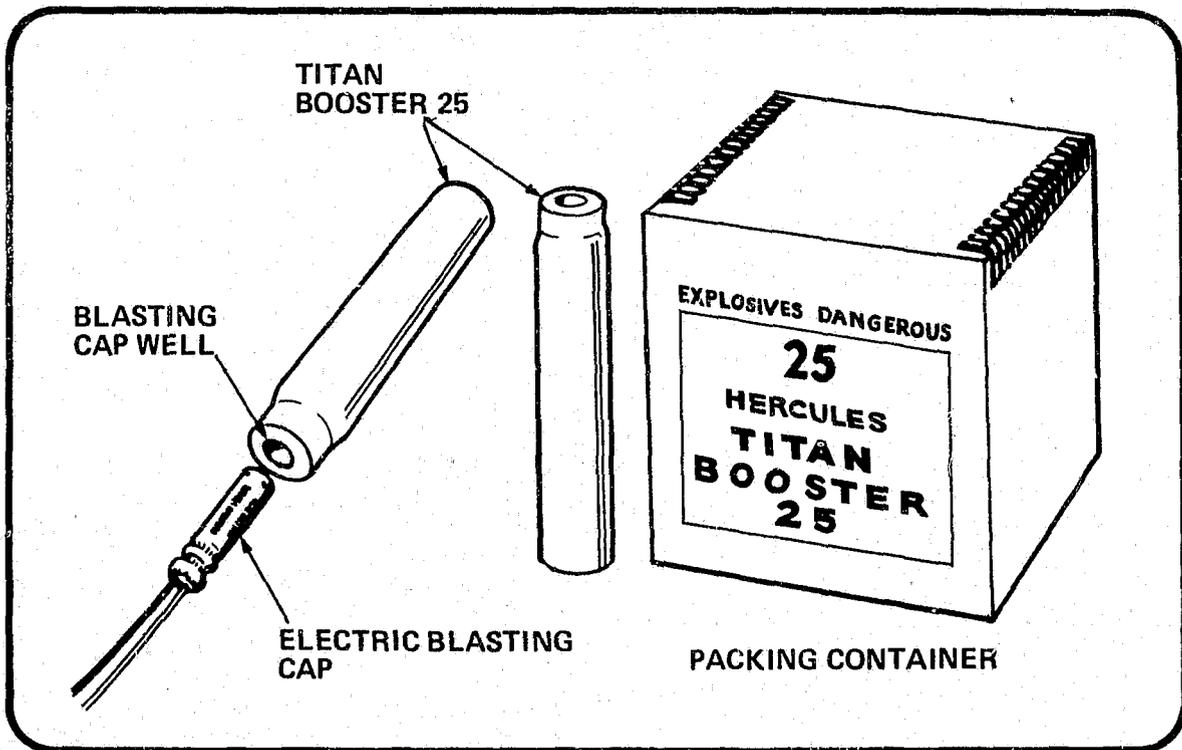

Figure 34
- **RDX.** Alone and mixed with other explosives, RDX is used in several commercial primers and boosters. The Titan Booster 25, illustrated in figure 34, is designed primarily for underwater work. It consists mainly of RDX in a 4 1/2 by 5/8-inch aluminum tube with a cap well located at one end, giving the appearance of an oversized blasting cap.